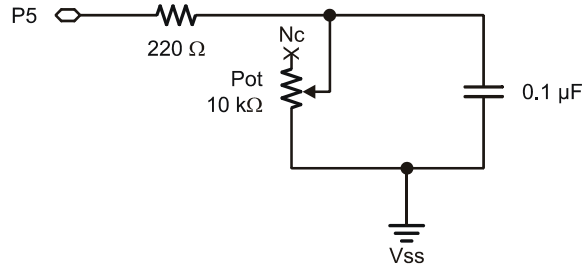
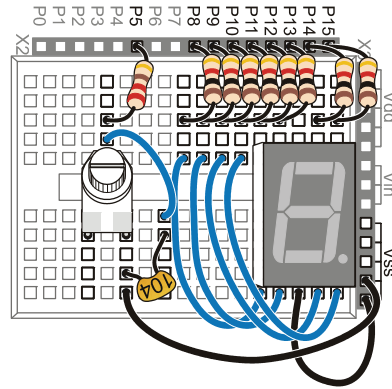

Figure 6-15
Figure 6-16
Figure 6-15 shows a schematic of the potentiometer circuit that should be added to the project. Figure 6-16 shows a wiring diagram of the circuit from Figure 6-15 combined with the circuit from Figure 6-11 on page 176.
- ✓ Add the potentiometer circuit to the 7-segment LED display circuit as shown in Figure 6-16.
Wiring Diagram for Figure 6-15